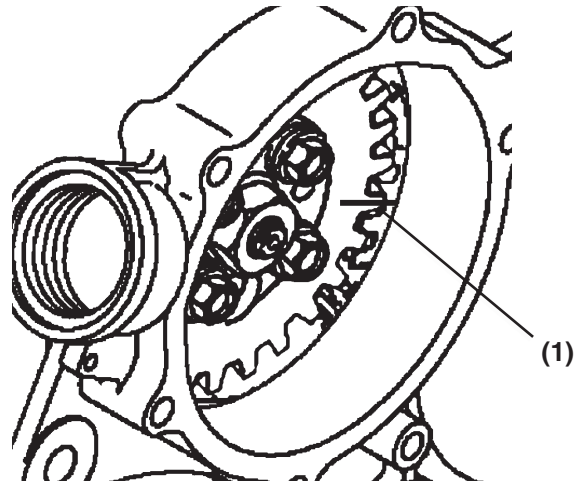

Figure 7-11
- On TNV94 - 106 model engines, the idler gear is visible. Make a reference mark (Figure 7-11, (1)) across both the fuel injection pump drive gear and the idler gear.